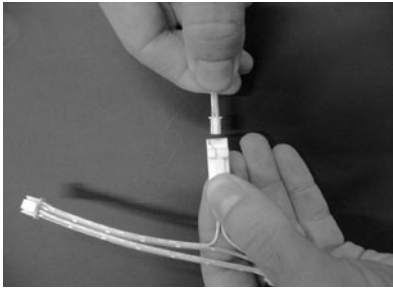

Fig 2
3. Connect AG-9300 Splice Connector to mating Wire Harness Connector. Connect the Control Box's Splice Connector to the mating connector on the Wire Harness (fig 2).